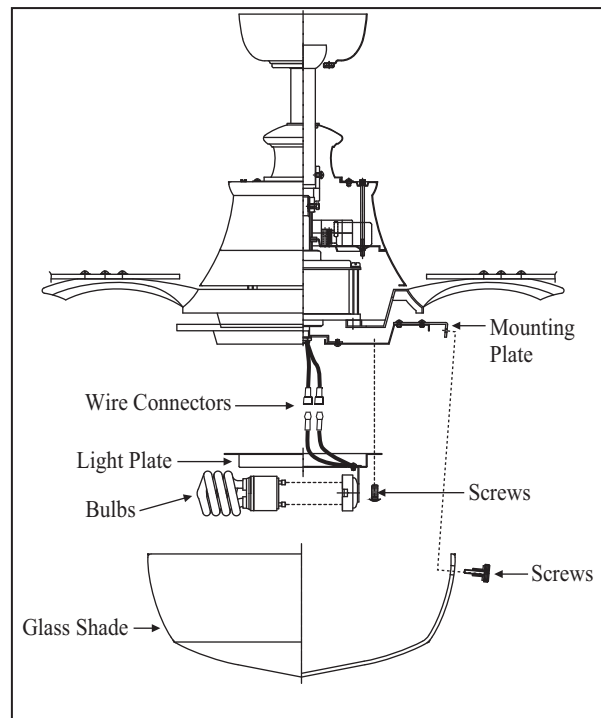

Figure 15
2. Carefully push all wires back into the mounting plate, then install the light plate onto the mounting plate with 3 screws provided. Be sure to tighten all screws. (Fig. 15)
4. Install the glass shade assembly to the mounting plate with screws provided. (Fig. 15)